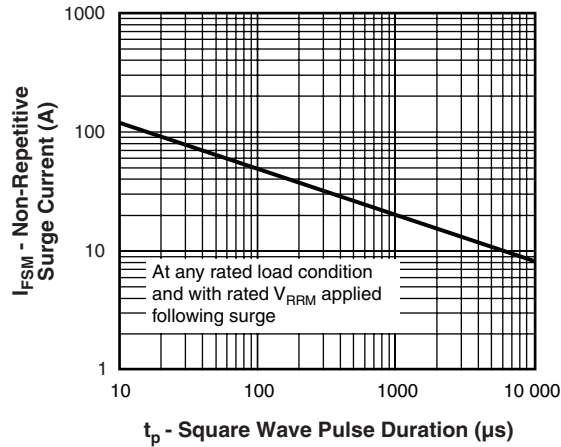

Fig. 6 - Maximum Non-Repetitive Surge Current (Per Leg)
- (1) Formula used: $T_C = T_J - (P_d + P_{dREV}) \times R_{thJC}$;
- P_d = Forward power loss = $I_{F(AV)} \times V_{FM}$ at $(I_{F(AV)}/D)$ (see fig. 6);